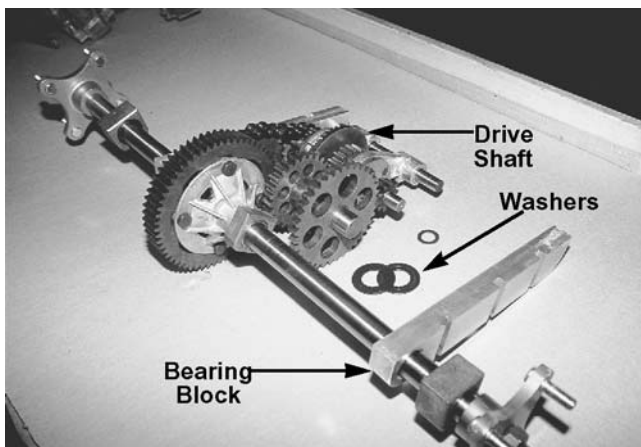

Figure 5-91.
52. Slide the right hand bearing block over the output shaft, drive shaft, and shift fork assembly. See Figure 5-91.